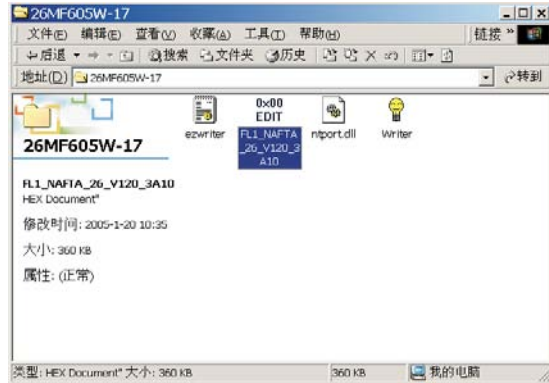

Fig.4
Step 3 :Copy the FL1\_NAFTA\_26\_V120\_3A10.hex to C:\26MF605W-17 as shown in Fig. 4 .